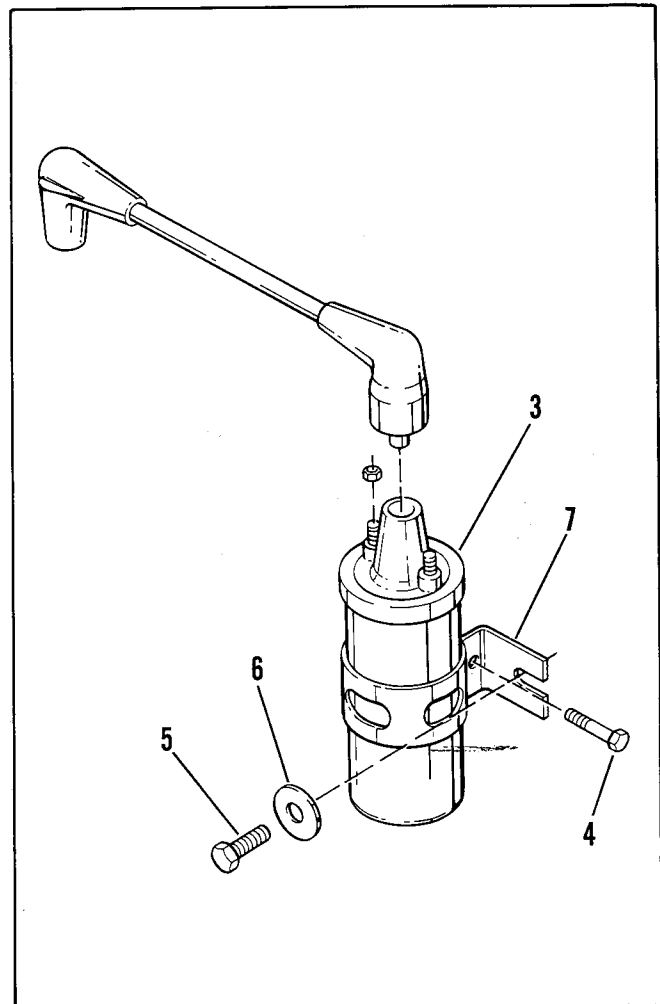

Figure 87 – Ignition Coil
- c. See Figure 87. Remove the two mounting bolts (5), washers and lockwashers (6). Remove the coil.
- d. See Figure 87. Loosen coil clamp screw (4) and lift coil out.
Installation (Figure 87)